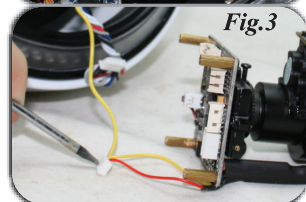
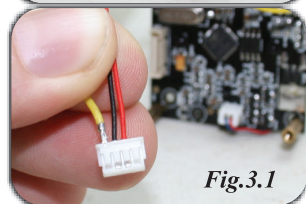

Fig.3
Fig.3.1
Step 3: Please resolve the yellow pin on the very right of the photoresistor's connector with a tiny screwdriver by loosening the plastic hook (Fig.3). Now please take the new photoresistor from your upgrade-pack and plug the yellow pin to the connector next to the black cable (Fig. 3.1).